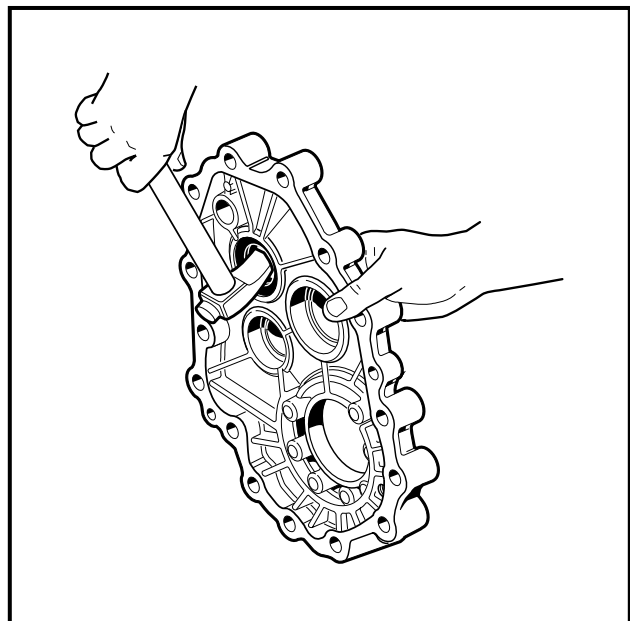

Figure 16b-46 Input Shaft Oil Seal
- 16.1. Use snap ring pliers (.047 tip) to remove the retaining ring (16) on the shifter shaft (**Figure 16b-42, Page 16b-19**).